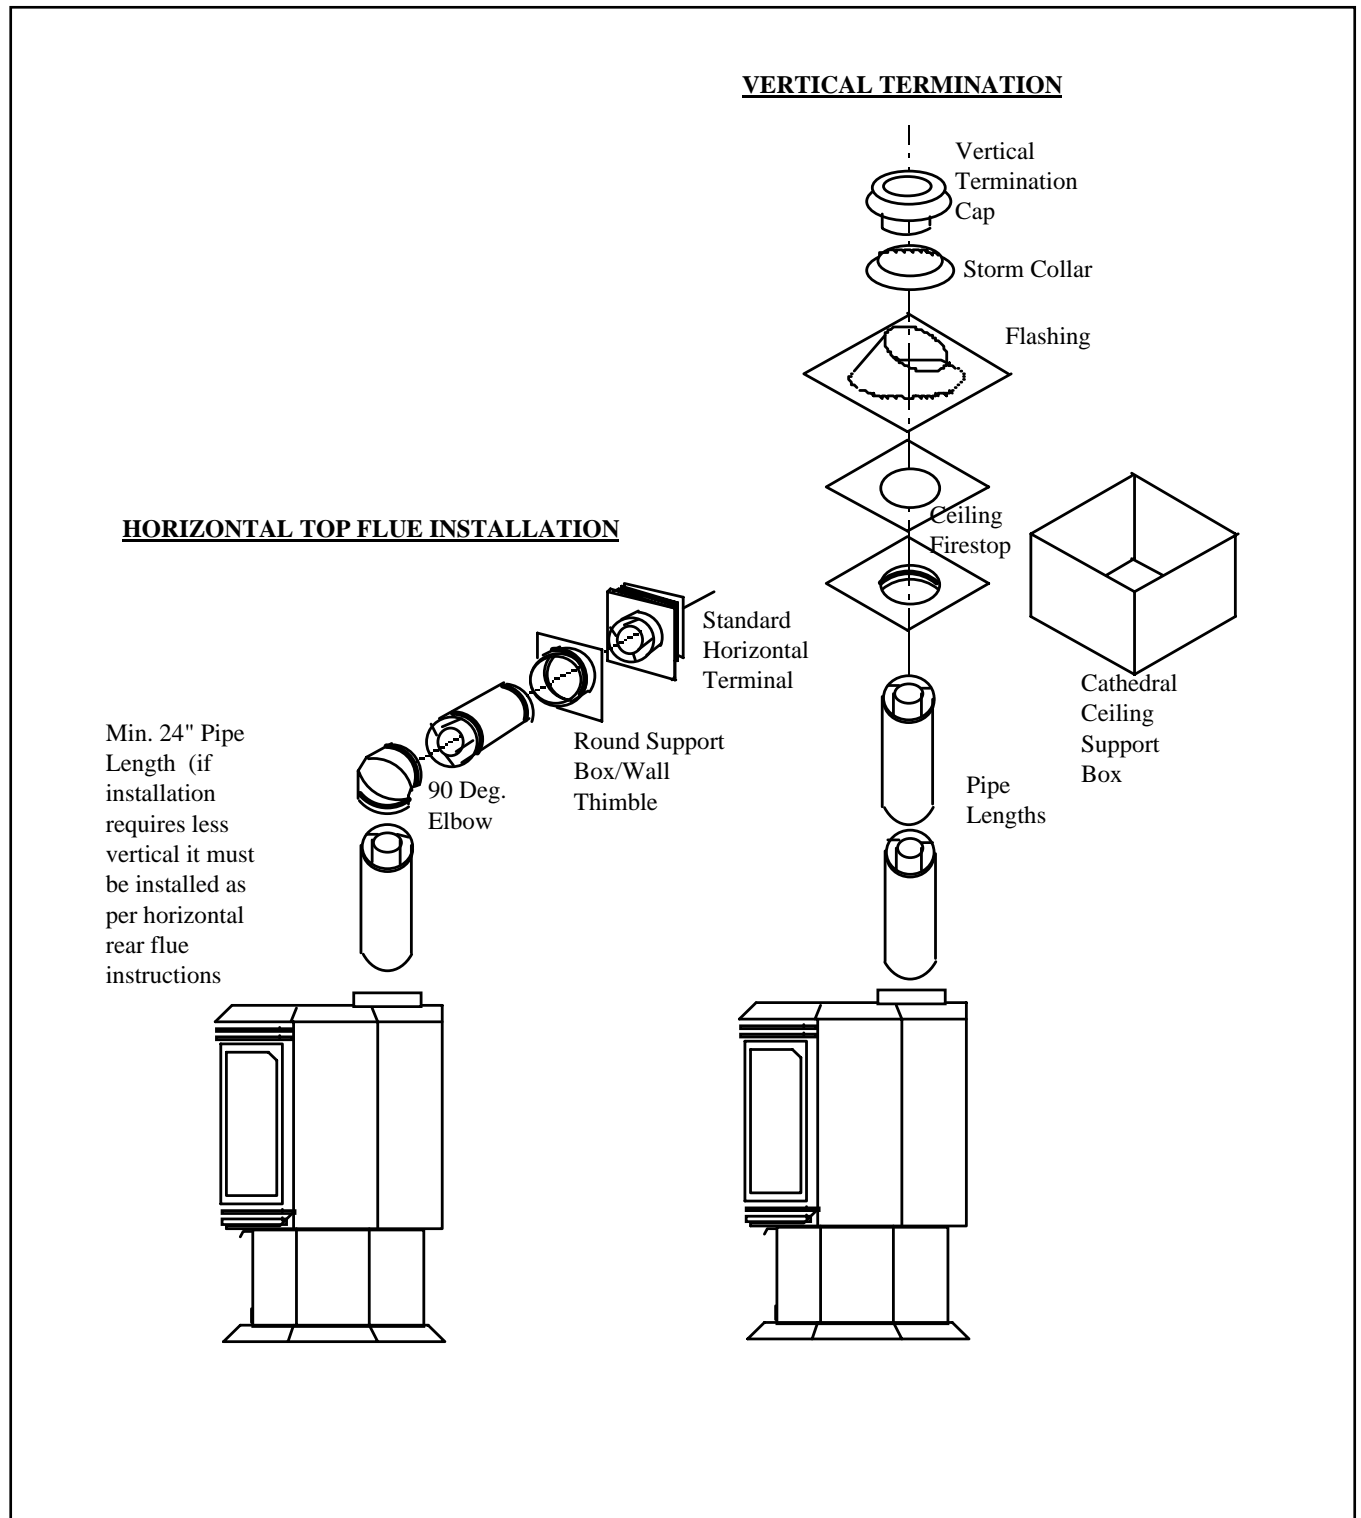

FIGURE 17: HORIZONTAL & VERTICAL VENT SYSTEM
STEP 1. Determine the amount of horizontal run for a specific installation. Note the minimum vertical run and ensure it is met for a specific application as shown in FIGURE 17 below.